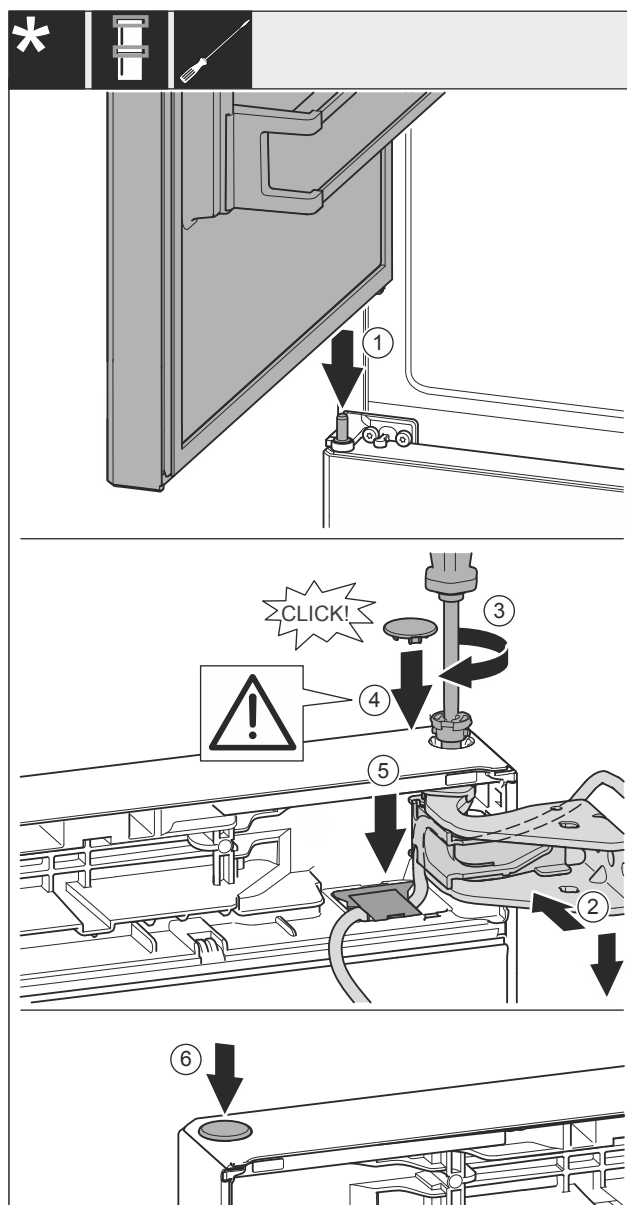

Fig. 37
- Place the top door on the centre bearing bolt Fig. 37 (1).
- Align the top door with the opening in the swap bearing block Fig. 37 (2).
- Insert the bolt Fig. 37 (3) and use screwdriver to tighten it.
- Insert the cover Fig. 37 (4).
- Check that the cover Fig. 37 (4) is resting on the door.
- Insert the cover Fig. 37 (5) and push down until it engages.
- Insert the cover Fig. 37 (6).